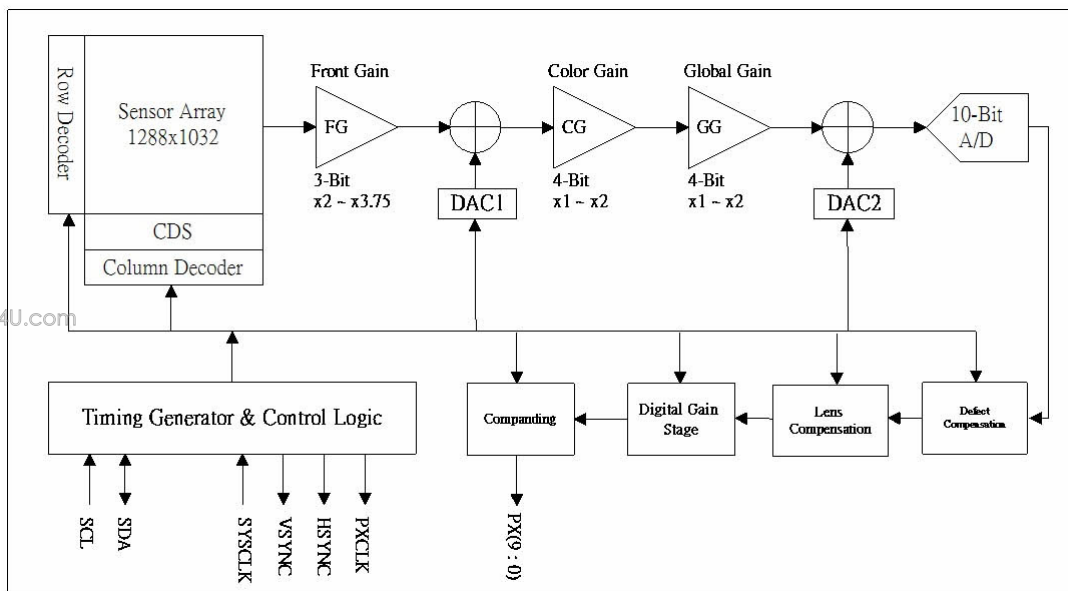

Figure 3.1 Shows the PAS5101PE sensor block diagram
The PAS5101PE is a 1/3" CMOS imaging sensor with 1280 (H) x 1024 (V) physical pixels. The active region of sensor array is 1288 (H) x 1032 (V) as shown in Figure 3.1. The sensor array is covered with Bayer pattern color filters and μ -lens. The first pixel location (0,0) is programmable in 2 direction (X and Y) and the default value is at the left-down side of sensor array.